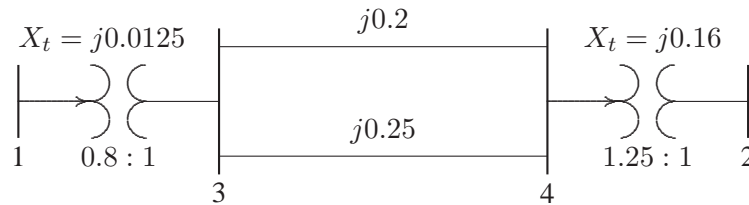

FIGURE 56
6.9. The one-line diagram of a four-bus power system is as shown in Figure 56. Reactances are given in per unit on a common MVA base. Transformers T_1 and T_2 have tap settings of 0.8:1, and 1.25:1 respectively. Obtain the bus admittance matrix.